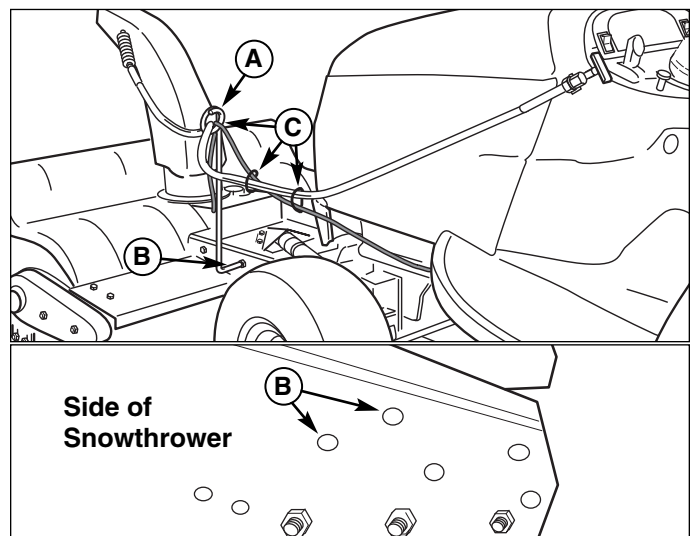

Figure 22. Deflector Control Cable Support Arm
1. Assemble the deflector control cable support arm (A, Figure 22) to the left side of the snowthrower using one 5/16-18 x 1" cap screw, lockwasher, and nut using the holes (B) shown in Figure 22.
2. Route the remote deflector control cable and spout rotator motor wires through the cable guide (A, Figure 22).
1. Secure the spout rotator wire harness to the remote deflector control cable as shown in Figure 22 using cable ties (C).
1. Connect the electric discharge chute rotator motor leads to the wire harness. Route the wire harness through the control cable support arm (see Figure 22).